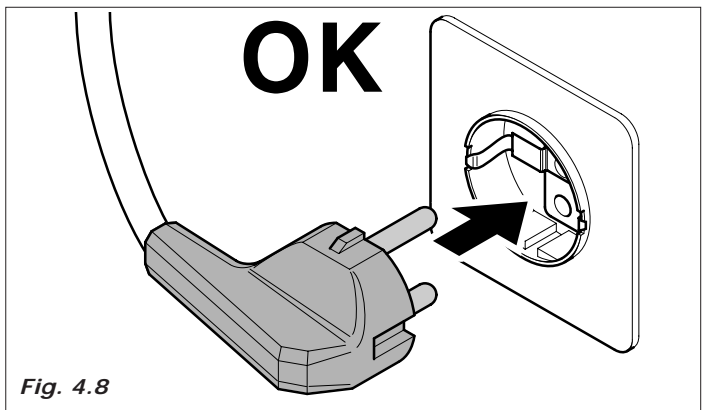

Fig. 4.8
- The distributor is equipped with a power supply cable of H05VV-F 3x1,5mm², with SCHUKO plug (Fig.4.8).